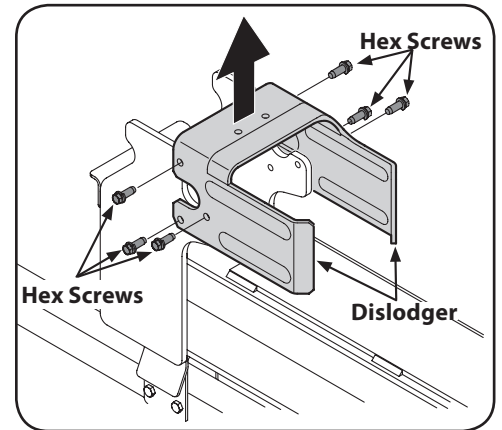

Figure 3-4
14. Disconnect the dislodger from the beam weld bracket by removing the six hex screws. See Figure 3-4.
17. Attach the dislodger over the wedge assembly and secure it to the weld brackets with the hardware removed in step 14. See Figure 3-4.